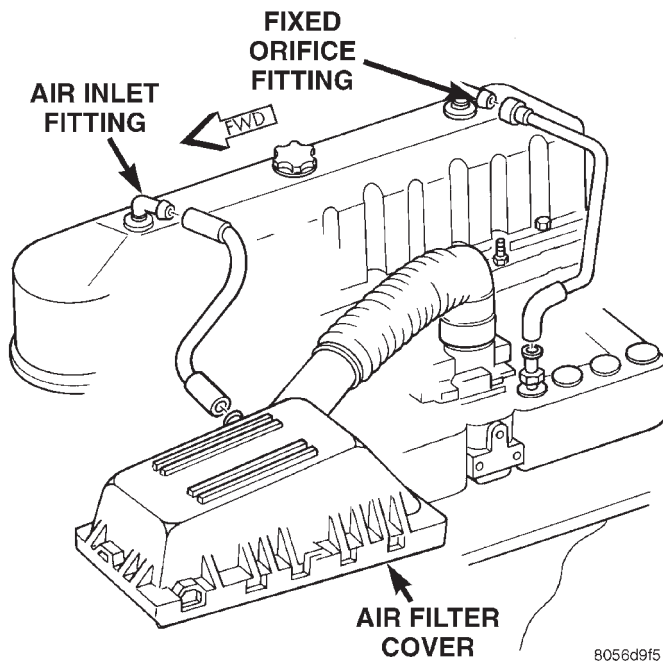

Fig. 29 Crankcase Ventilation (CCV) Hose —4.0L Engine
- (1) Disconnect the battery negative cable.
- (2) Remove air cleaner inlet hose from throttle plate assembly.
- (3) Remove the air cleaner assembly.
- (4) Remove the throttle cable, cruise control cable (if equipped) and the transmission line pressure cable.
- (5) Disconnect the crankcase ventilation (CCV) vacuum hose and manifold absolute pressure (MAP) sensor vacuum hose connector at the intake manifold.
- (6) Disconnect vacuum hose from vacuum port on the intake manifold.
- (7) Disconnect CCV hose at the cylinder head cover (Fig. 29).